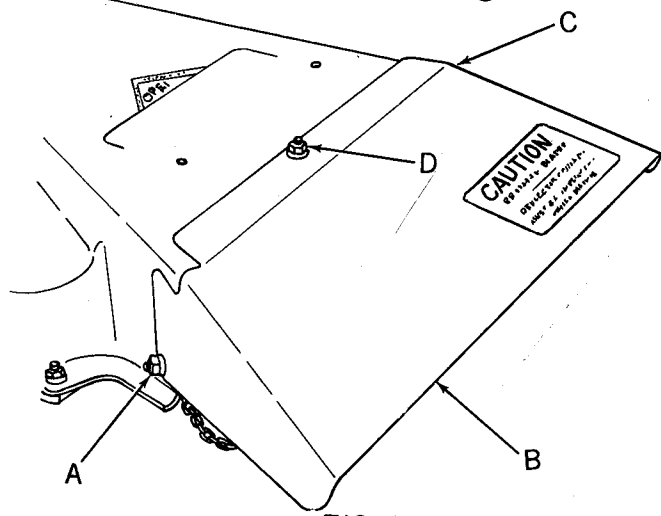

FIG. 5
1. Refer to Fig. 5. Remove bolt (A) from rear of mower housing (discharge end).
2. Make sure chain links are not kinked, and slip shield (B) over discharge end of mower housing as shown. Replace bolt (A) (head to inside) through mower housing and shield (B). Slip a 11/32 x 11/16 x 16 Ga. washer (found in plastic bag) on bolt. Secure with lockwasher, and hex nut, which was previously removed. Leave bolt loose.
3. Insert a 5/16 x 3/4 carriage bolt (C) (head to inside) through front of mower housing, and shield (B). Secure with a 11/32 x 11/16 x 16 Ga. washer, lockwasher, and hex nut. Bolt washers, and hex nut will be found in plastic bag.
4. Insert a 5/16 x 3/4 carriage bolt (D) (head to inside) through top center of housing and shield, in same manner as step 3 above. NOTE: Be sure shield is down against mower housing. Tighten all 3 bolts securely.